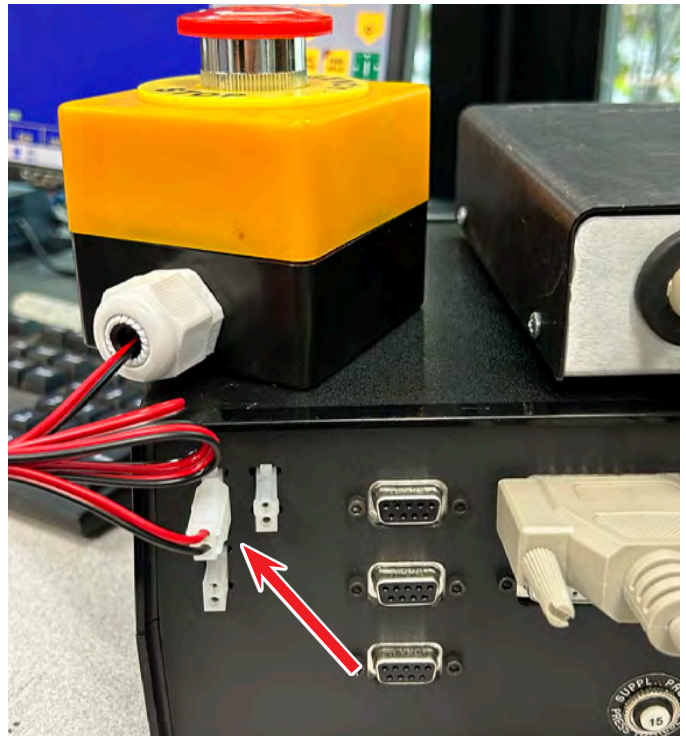

FIGURE 23
- 3. Your E-stop should already be plugged into the top left, 2-pin connector on the back of the controller (see Figure 23).